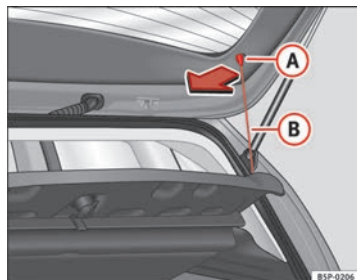

Fig. 122 Rear shelf
- Unhook the loops ⇒ Fig. 122 B from housings A.